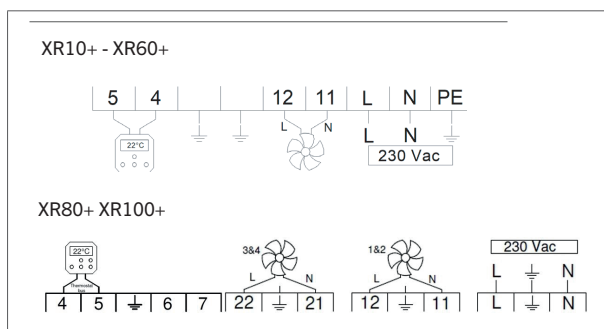

Figure 9 - The air heater's connection clamps
- Connect the wires of the mains cable to the clamps in the connection box (figure 9).